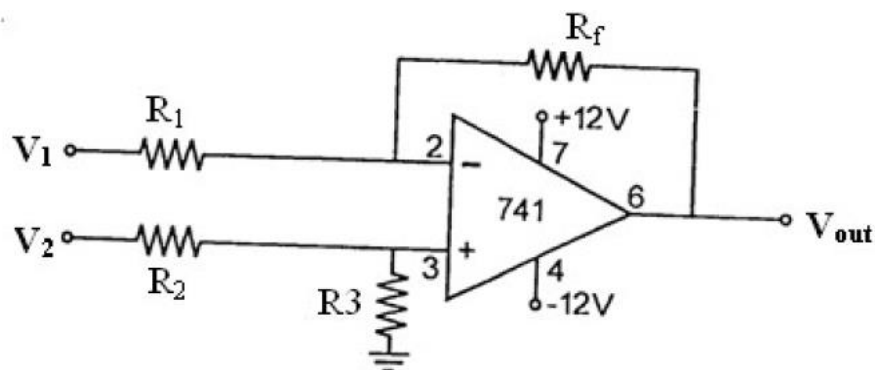

Fig.2.3. Op-Amp based adder circuit
A subtractor using Op-Amp is a circuit that gives the amplified version of the difference of the two inputs shown in Fig. 2.3.
1. Assemble the circuit on the bread board according to Fig. 2.3 choosing $R_F = 10k\Omega$, $R_1 = R_2 = 10k\Omega$ and $R_3 = 10k\Omega$.